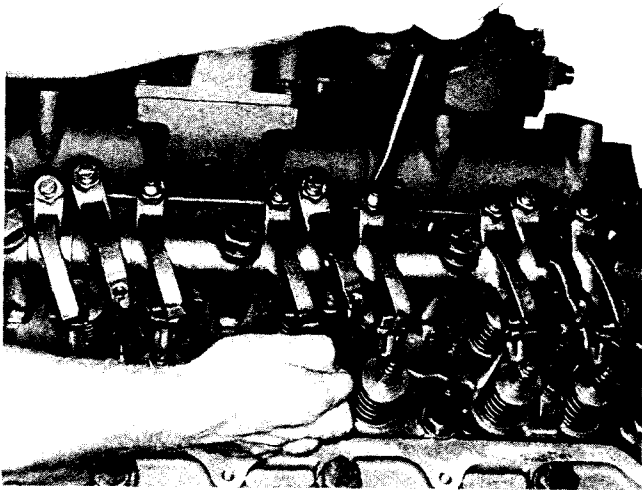

Fig. 2-41, (V51492). Adjusting valves — V-903
1. Loosen locknut and back off adjusting screw. Insert feeler gauge between rocker lever and top of crosshead. Fig. 2-41. Valve clearances are shown in Table 2-8. Turn screw down until lever just touches gauge,